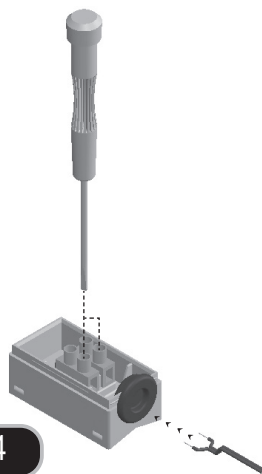

Figure 4
- ② Connect cables to terminal block. (See Figure 4)